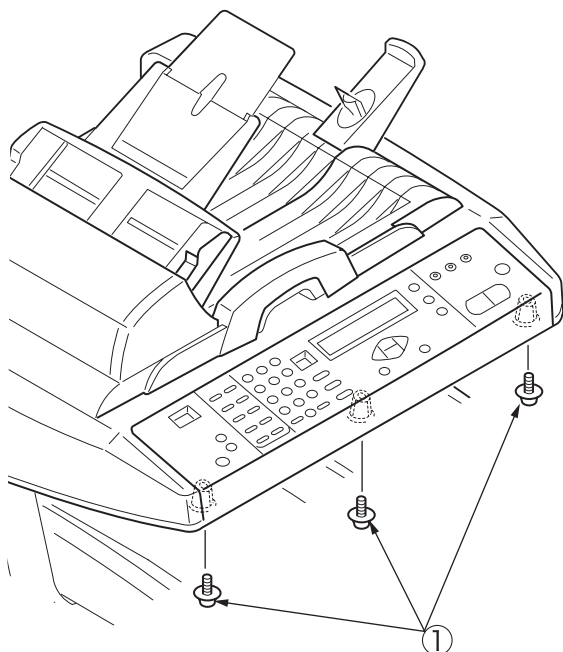

Figure 1
- (1) Remove the three screws ①. (Figure 1)